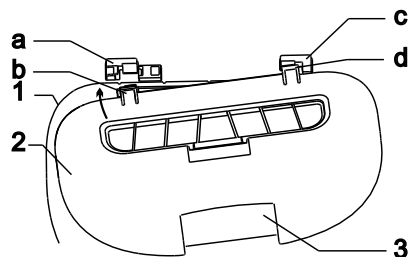

Fig. 1
2. Install the right hinge "d" into the round holder "c" (see Fig. 1). Then press left hinge "b" into the holder "a" in accordance to the direction of the arrows.